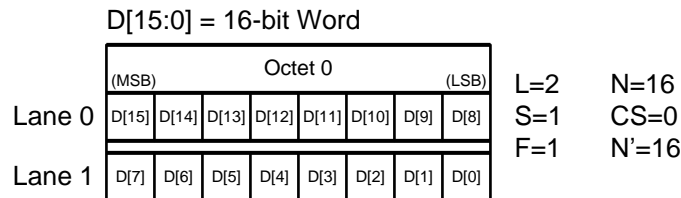

图 34. Transport Layer Definitions for the Supported-Lane Configurations
The lanes per device (L), octets per frame (F), samples per frame (S), and high-density mode (HD) parameters are not independently configurable. The N, N', CS, CF, M, and HD parameters are fixed and not configurable. 表 2 lists the available JESD204B formats and valid ranges for the ADC31JB68. The ranges are limited by the Serdes line rate and the maximum ADC sample frequency. 图 34 shows the data format.